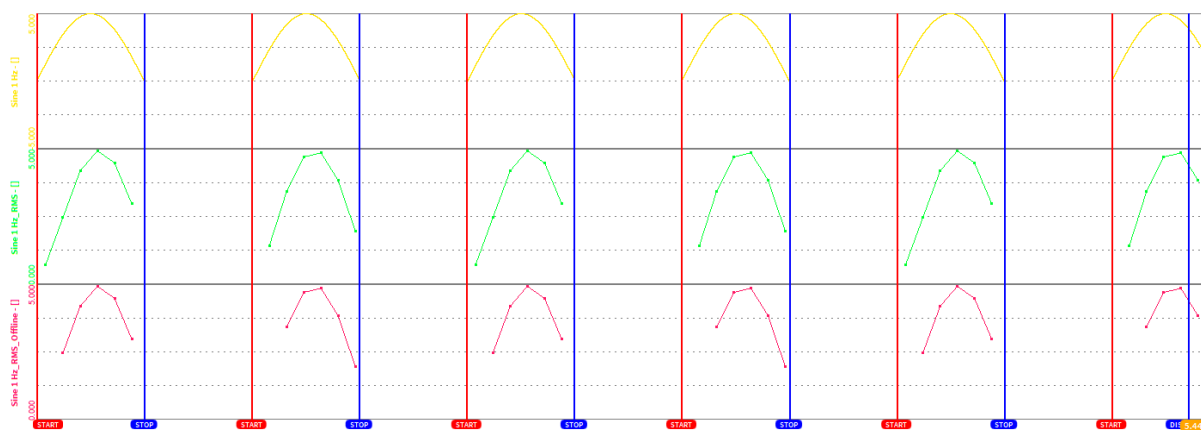

Fig. 7.177: Deviation of Offline and Online Statistics channels in case of Event based Waveform recording
- Be aware that an Offline Statistics channel will differ from an Online Statistics channel, i.e. at the beginning of the file or in case of Event based waveform recording (see *Triggered Events*). In the example displayed in Fig. 7.177, the green channel is an online calculated Statistics channel applied on the yellow analog channel and the red channel is an offline calculated Statistics channel applied on the yellow analog channel with identical channel settings. The deviation of the green and the red channel is due to the availability of the full analog data during online calculation. During the offline calculation, only the event based recorded analog data is available.